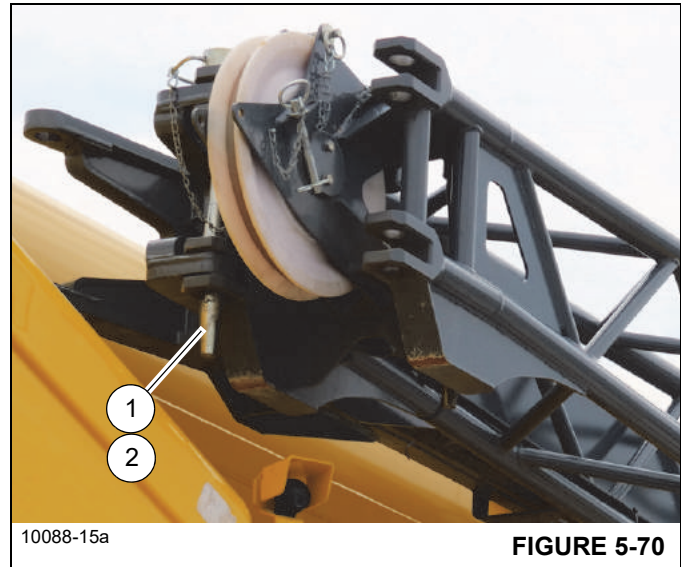

FIGURE 5-70
18. Remove the pin from its holder on the boom extension base section. Attach boom extension base section to fly section by installing the pin (2, Figure 5-70) and securing it with the retaining clip (1).